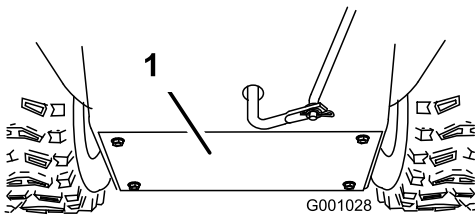

Figure 50
3. Remove the back cover (Figure 50).